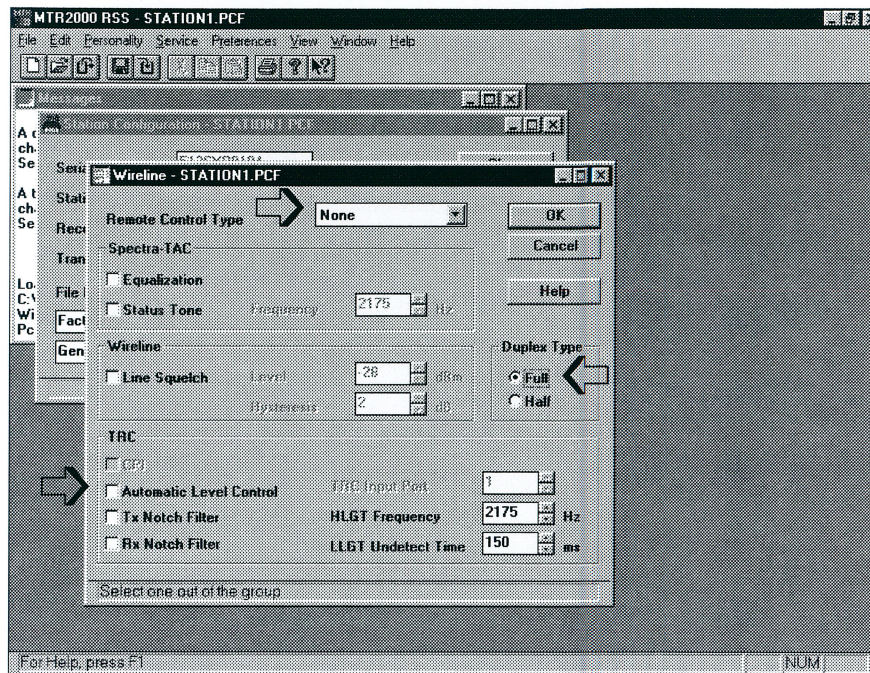

Fig. 3
6. Click on **Personality**, and click on **Wireline**. Compare the window that appears with that in Fig. 3 and make any necessary changes in the RSS. Everything must appear exactly as shown. The options in the Configuration window marked by the arrows are items of particular importance. When done, click **OK** to close the window.